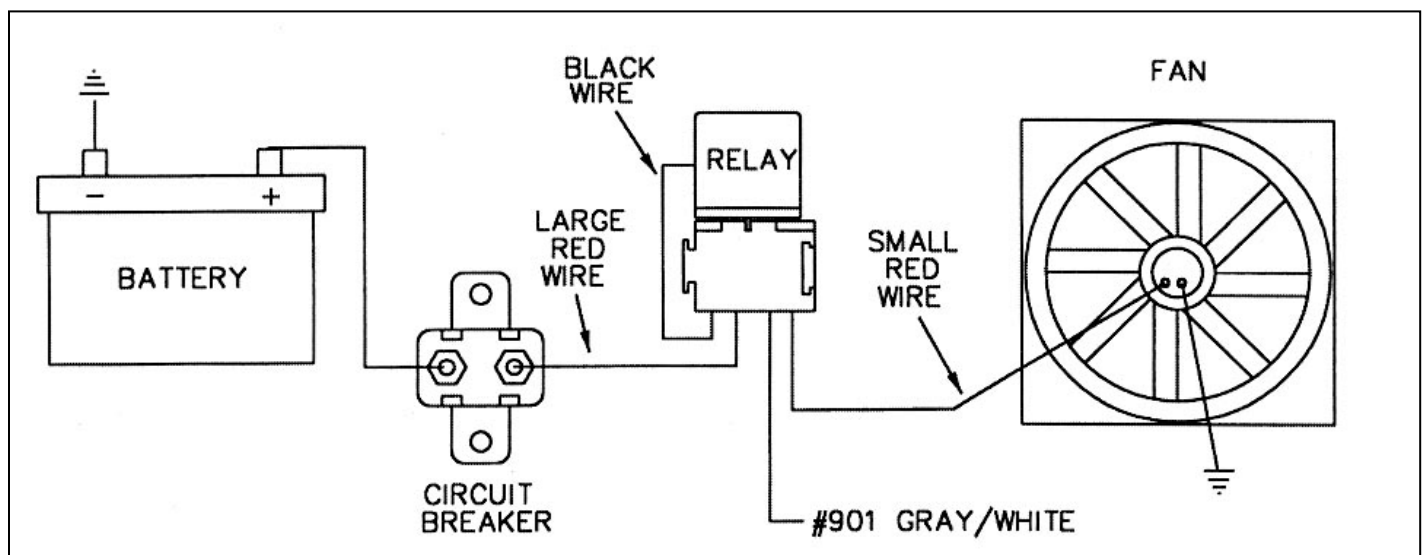

Figure 5-4A Typical Fan Relay Installation (Fan Relay Kit – Painless Part #30101)
5.5.4 Connect wire #901 (gry/wht) to the Electric Fan Relay. This wire is an activation wire for the relay, **NOT A POWER FEED**. The other end of wire #901 should be connected to the electric fan switch in the dash. **Figure 5-4A** shows a typical fan relay installation.